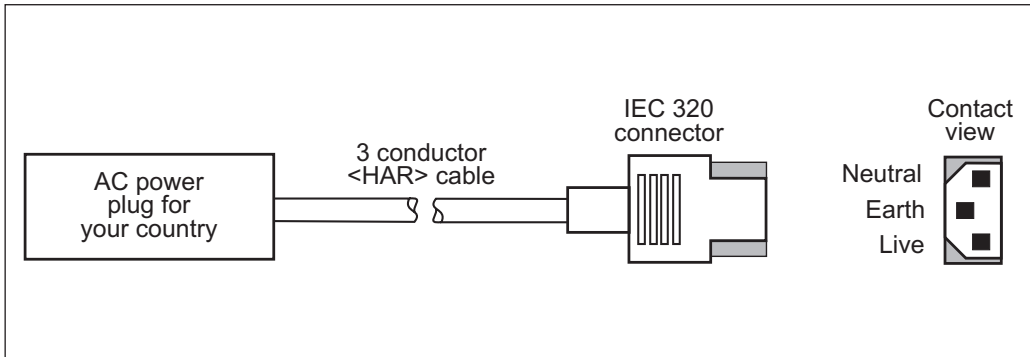

Figure 35
- The chassis ground (earth) **MUST** be connected to assure safety and reduce electromagnetic interference. The ground connection is handled by the third wire (earth) in the power line cord. See Figure 35.